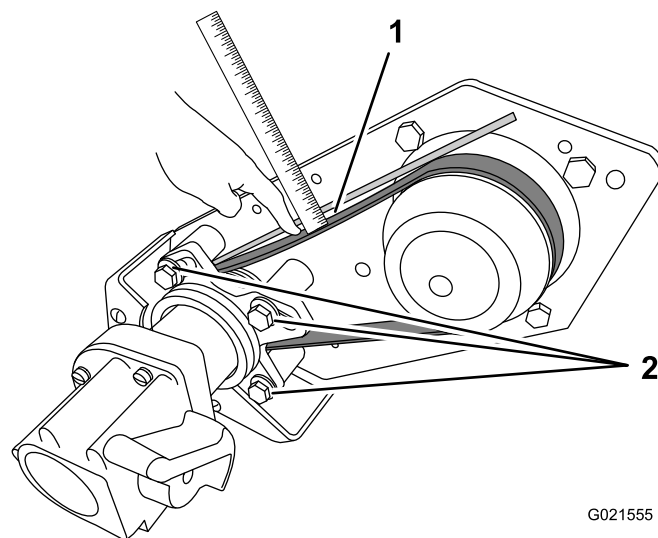

Figure 32
1. Plastic washer (5)
2. Screw (5)
5. With your finger, push on the belt with 6.8 kg (15 lb) of pressure, midway between the pulleys (Figure 32).